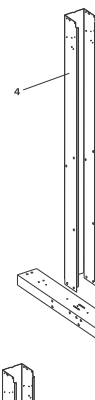

Fig. 12
B) Now slide the straight side 4"x4" uprights over the strap end channels making sure that the holes line up as shown in Fig.12.